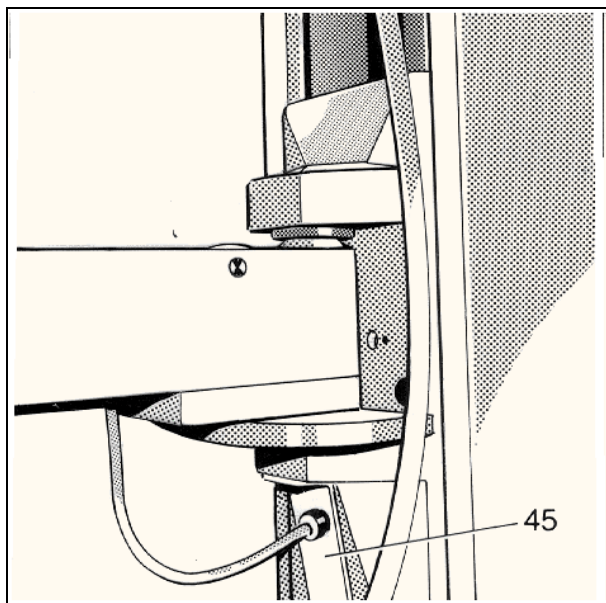
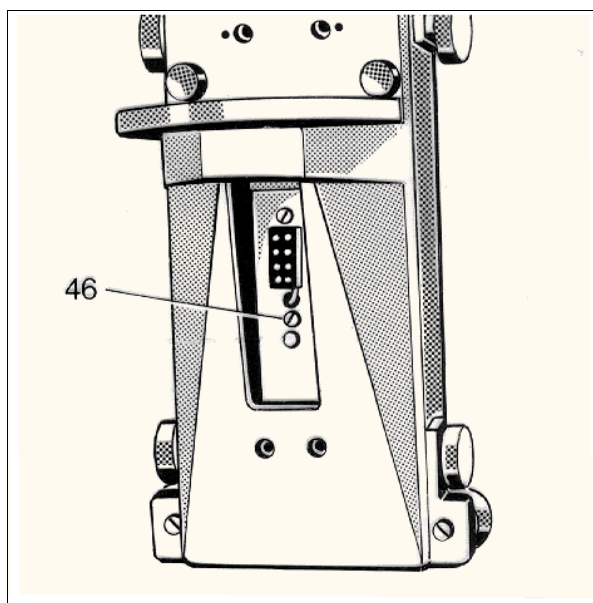

Fig. 31
Fig. 32
* Check function of vertical carriage brake (Fig. 32/item 47). Adjust if necessary. To do so remove cover (Fig. 31/item 45). Adjust brake at locked screw (Fig. 32/item 46). Install cover again.